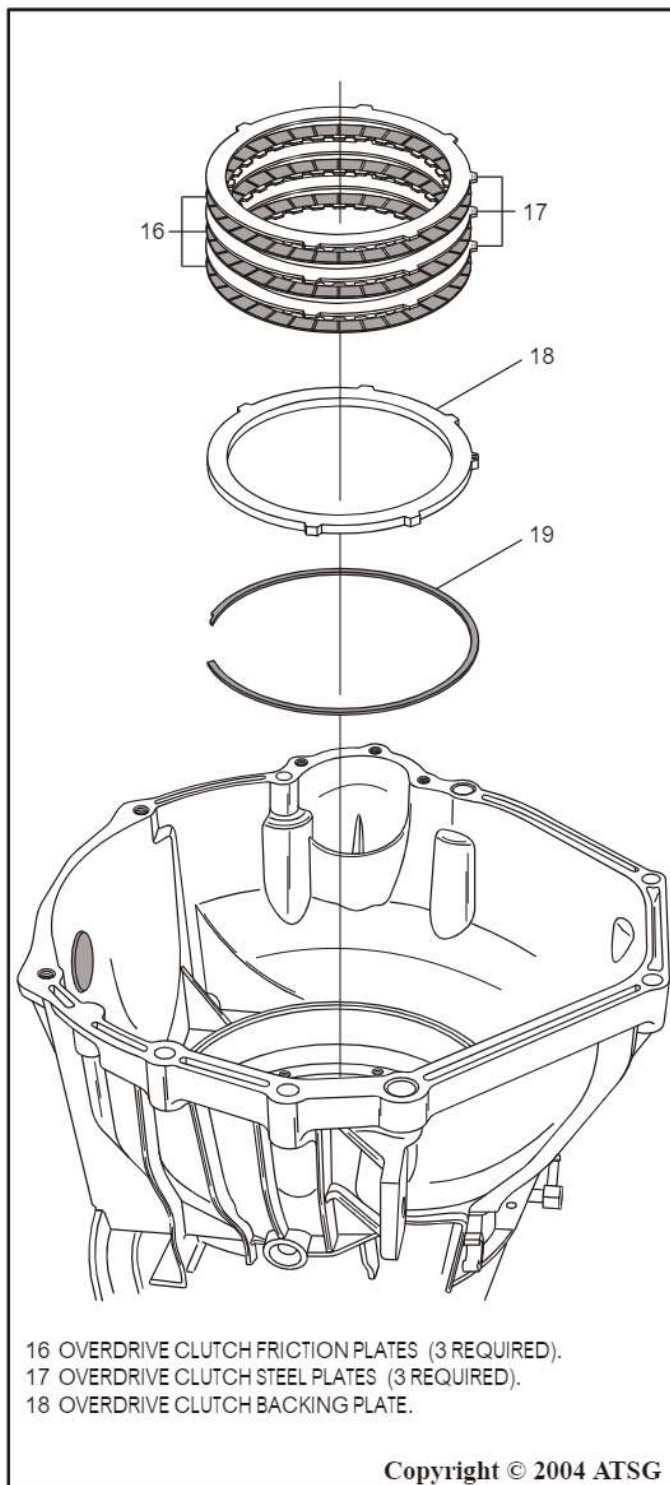

Figure 174
21. Install the overdrive backing plate snap ring, as shown in Figure 174, with the opening in the six o' clock position in the case.
22. Install the overdrive clutch backing plate into the case, as shown in Figure 174.
23. Install the overdrive clutch plates, as shown in Figure 174, beginning with a friction plate and alternating with steel plates.